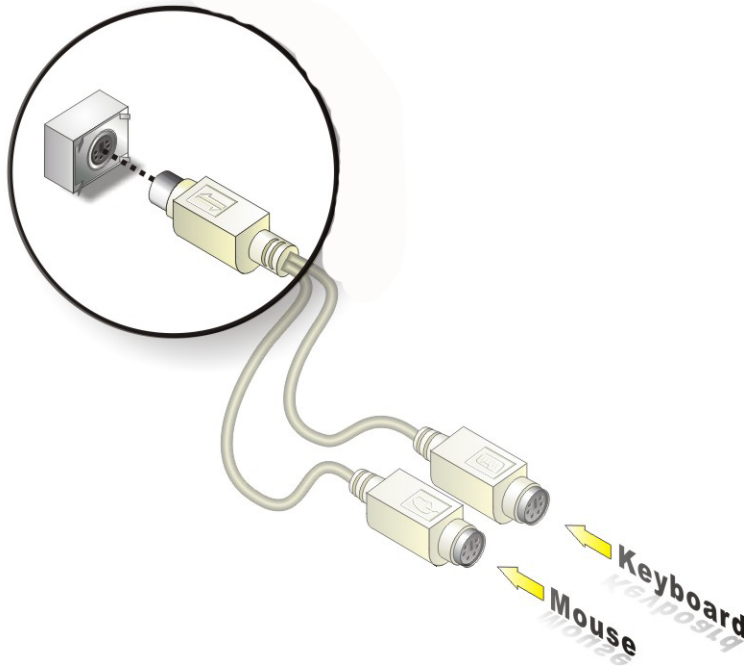

Figure 5-24: PS/2 Keyboard/Mouse Connector
Step 2: Insert the keyboard/mouse connector. Insert the PS/2 connector on the end of the PS/2 y-cable into the external PS/2 connector. See **Figure 5-24**.